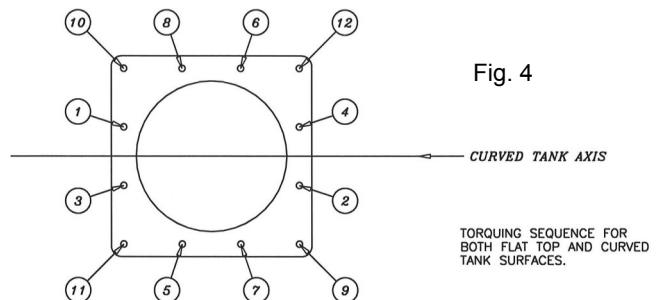

Fig. 4
- Insert and tighten all of the plate bolts to 40—60 in. lbs. (4.5—6.8 nm) of torque, or until all the bolts are snug to the top of the plate surface. Then tighten all the bolts to 78—95 in. lbs. (8.8—10.2 nm). Then recheck the bolts in the sequence indicated in Fig. 4 for 78—95 in. lbs. (8.8—10.2 nm).